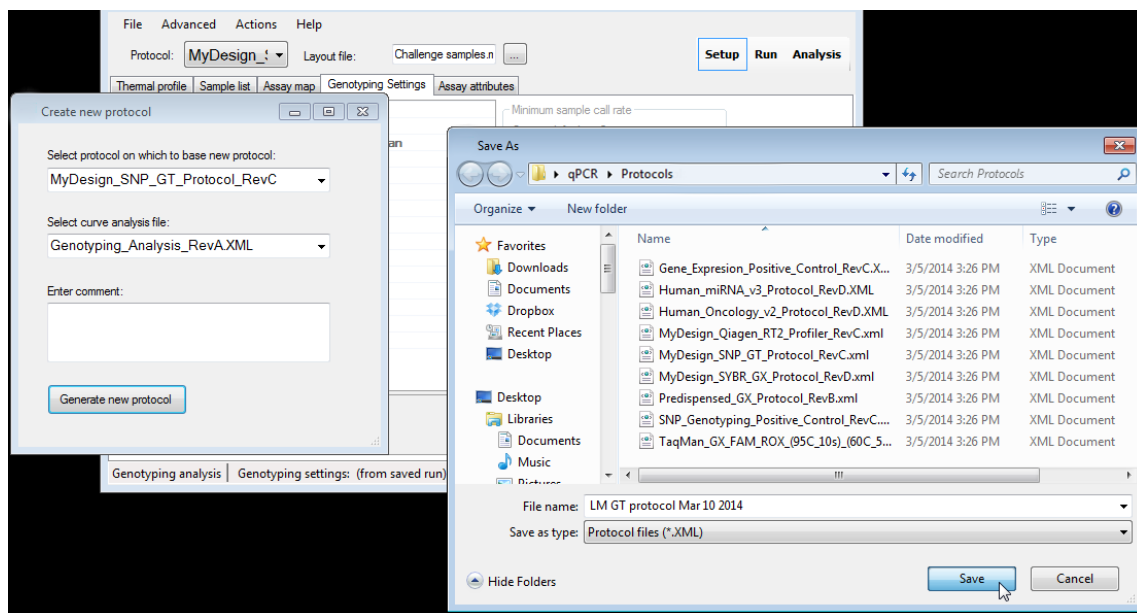

Figure 60. Saving your modified genotyping protocol.
- f. Click the [Generate new protocol] button and save the modified protocol file with a logical name (Figure 60).